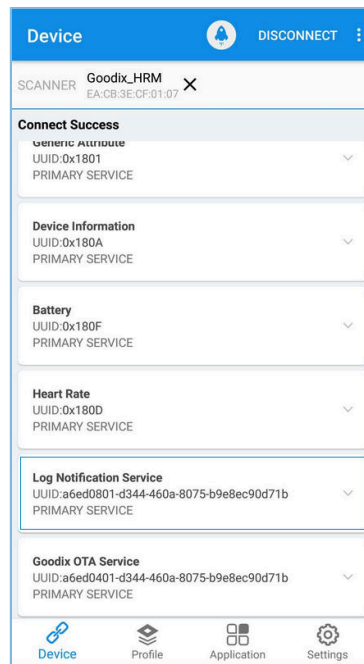

Figure 3-3 Successful discovery of LNS after connecting the phone to the Board on GRTtoolbox
1. Open GRToolbox on an Android phone and connect the phone with the GR5515 SK Board. **Log Notification Service** is then displayed, as shown in Figure 3-3.